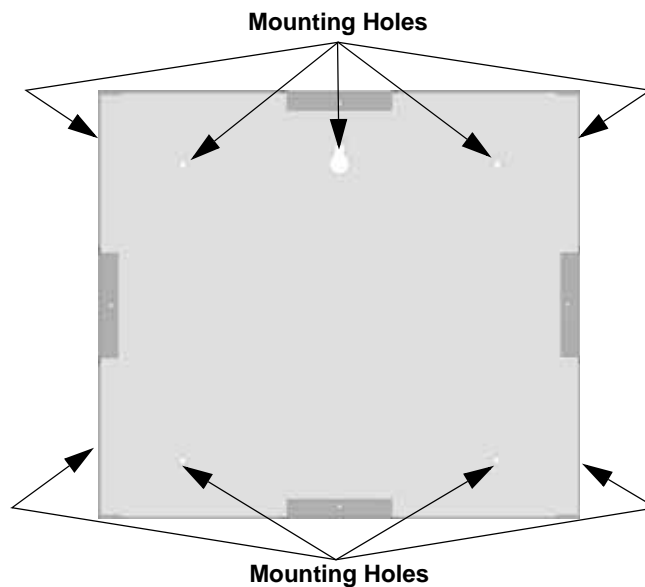

Figure 4-11 Back Box Mounting Holes
1. The back box dimensions are 9-9/32" w x 8-3/8" h. The minimum depth 2". The back box can be mounted prior to the complete installation of the RA-100 using any of the mounting holes shown in Figure 4-11.